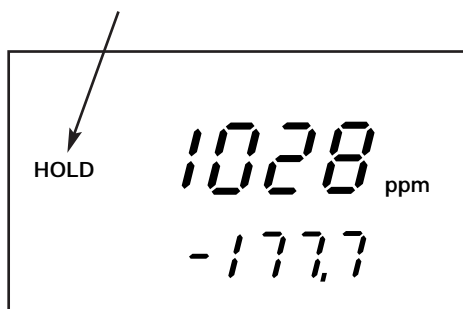

Figure 40
1. To hold a measurement, Press the **HOLD** key while in measurement mode. "**HOLD**" will appear on the display—See Figure 40.